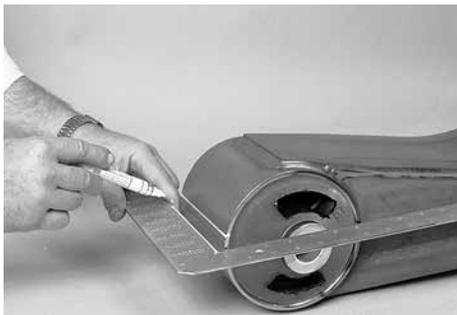

Figure 13: Marking bushing orientation on the bushing tube
2. Using a square and the bushing index mark as a reference point, **scribe or draw** a line on the outside of the bushing tube (Figure 13). This line marks the orientation of the existing bushing within the bushing tube and will be used to properly orient the replacement bushing during installation.